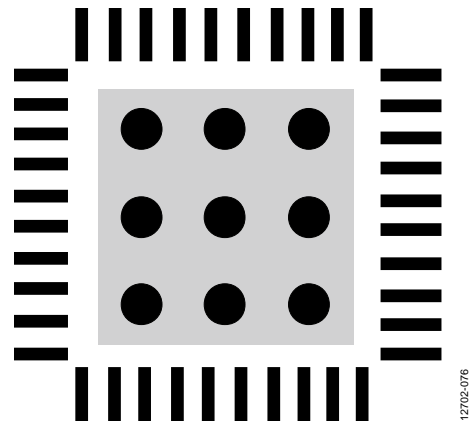

Figure 75. Exposed Pad Layout Example, Top View (Not to Scale)
- Place vias to connect all layers of copper, allowing efficient heat and energy conductivity. For an example, see Figure 75, which has nine vias arranged in a 3 via  $\times$  3 via grid in the pad area.